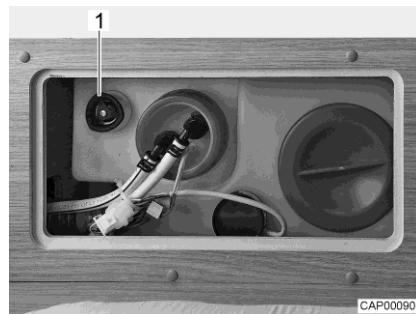

Fig. 90 Water tank with rotary handle
- Turn the rotary handle (Fig. 90,1) on the water tank in a clockwise direction as far as it will go.
- Turn the rotary handle (Fig. 90,1) on the water tank in an anticlockwise direction as far as it will go. Excess water will drain away leaving approx. 20 litres in the tank.